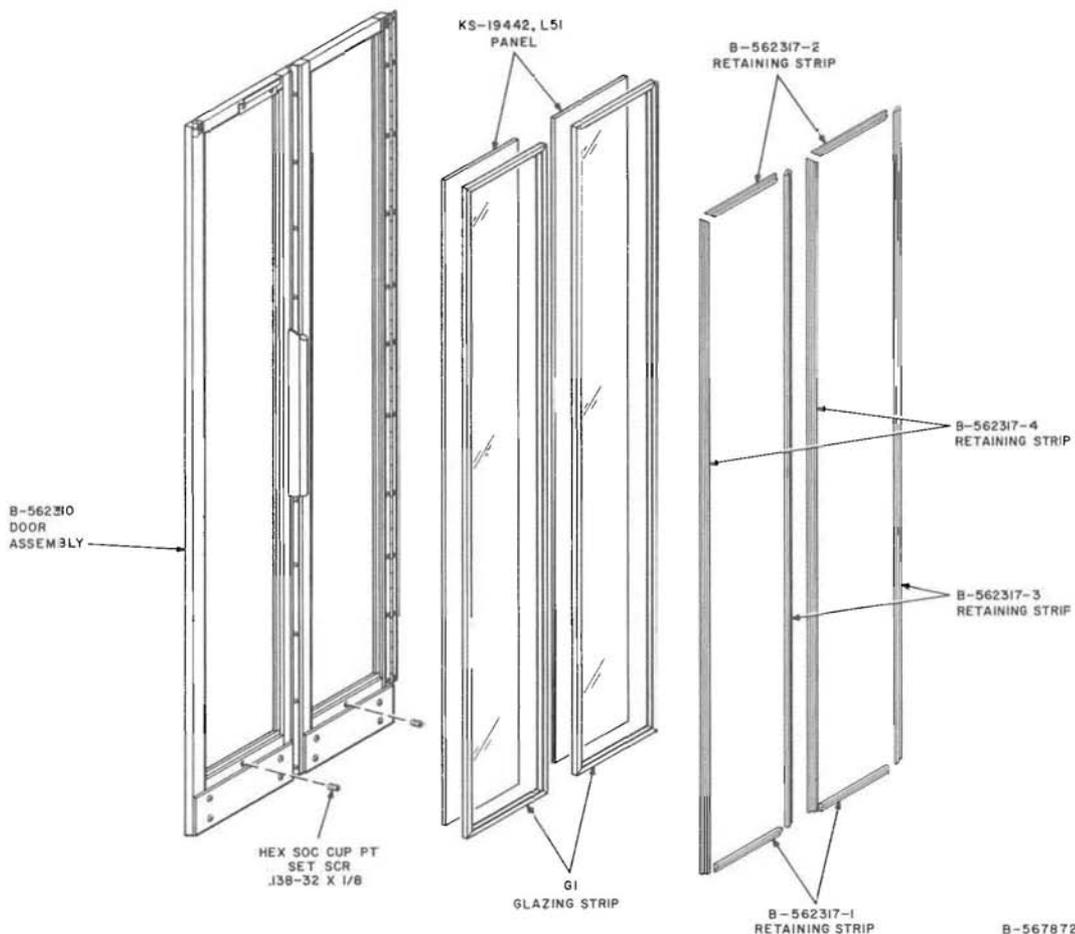

Fig. 24—Installation of Glass Panels in Door
- Refer to Fig. 24 for installing door panels. Side and rear panels are similarly installed.